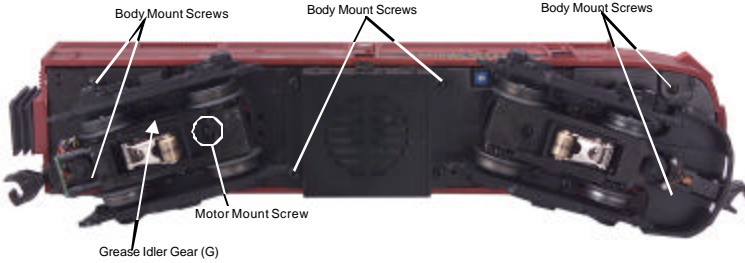

Figure 7. Location of Body Mount Screws and Greasing Points on the Locomotive
1. Although the engine was lubricated at the factory, it is important that you lubricate the chassis before operation. Lightly grease the outside idler and drive gears (marked “G” in Fig. 7 on pg. 13) with lithium-based grease to prevent them from squeaking. Use light household oil and follow the lubrication points marked “L” in Fig. 6 on p. 12. Do not over-oil. Use only a drop or two on each pivot point.
1. To access the gear box, remove the cab from the chassis by unscrewing the chassis screws as seen in Figure 7 and lifting the cab from the chassis.
2. Once the cab is removed, remove the trucks by unscrewing the black Phillips motor mount screw located on the underside of the drive trucks (see Fig. 7).
B. Remove the trucks from the chassis and the truck sides from the trucks in order to slip the new tire over the grooved drive wheel. See Fig. 7 for which screws you must remove to do this.